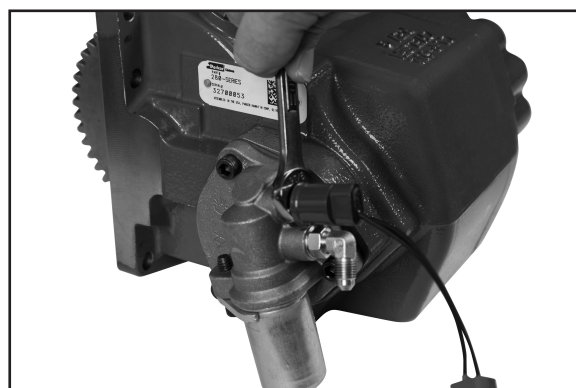

Figure 10
2. Install PTO pressure switch into port on Hydraulic Valve Cap. Torque between 120-140 lb-in [14-16 N-m] (**Fig. 10**).